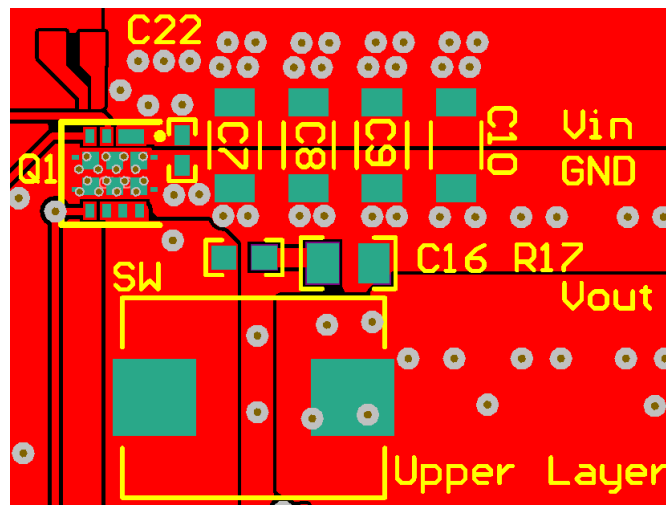
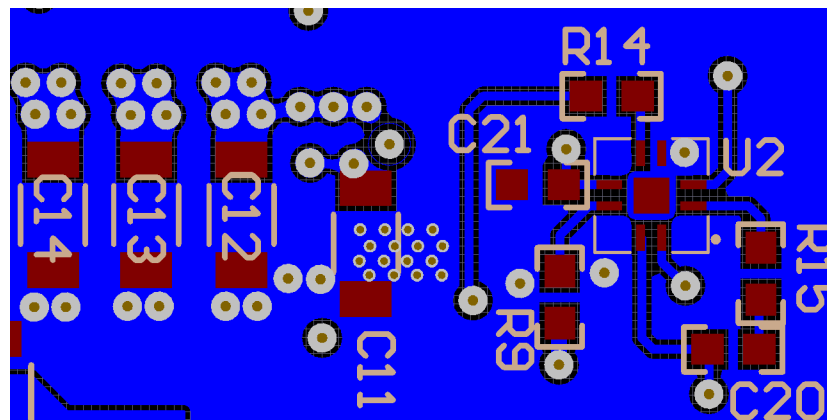

Figure 33. Recommended PCB Layout (Top Down View)
Figure 34. Recommended PCB Layout (Bottom View)
- The placement of the input capacitors relative to the power block's VIN and PGND pins should have the highest priority during the component placement routine. It is critical to minimize these node lengths. As such, ceramic input capacitors need to be placed as close as possible to the VIN and PGND pins (see Figure 33). It is recommended that one 3.3-nF (or similar), 0402, 50-V ceramic capacitor be placed on the top side of the board as close as possible to VIN and PGND pins. In addition, a minimum of 40 μF of bulk ceramic capacitance should be placed as close as possible to the power block in a design. For high-density design, some of these ceramic capacitors can be placed on the bottom layer of PCB with appropriate number of vias interconnecting both layers.
- The switching node of the output inductor should be placed relatively close to the power block VSW pins. Minimizing the node length between these two components will reduce the PCB conduction losses and actually reduce the switching noise level. In the event the switch node waveform exhibits ringing that reaches undesirable levels, the use of a boost resistor or RC snubber can be an effective way to easily reduce the peak ring level. The recommended boost resistor value will range between 1.0 Ω to 4.7 Ω depending on the output characteristics of driver IC used in conjunction with the power block. The RC snubber values can range from 0.5 Ω to 2.2 Ω for the R and 330 pF to 2200 pF for the C. Please refer to Snubber Circuits: Theory, Design and Application (SLUP100) for more details on how to properly tune the RC snubber values. The RC snubber should be placed as close as possible to the VSW node and PGND (see Figure 33 and Figure 34).
- Use the smallest drill size allowed in your design. The examples in Figure 33 and Figure 34 use vias with a 10-mil drill hole and a 16-mil capture pad.